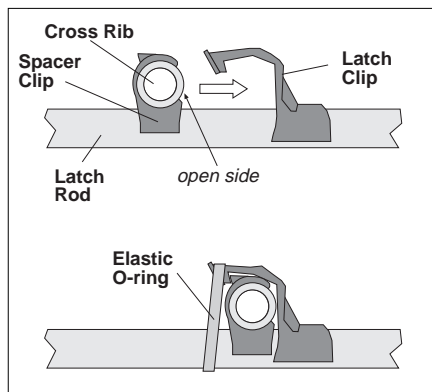

Figure 3, Latch Clip
- Pick up *cross rib (A)* and turn it so the open side of the *spacer clips* face the open latches. See Fig. 3.
6. Mount the two *cross ribs (B)*.
- *Cross ribs (B)* are mounted in front of and behind the one already installed.